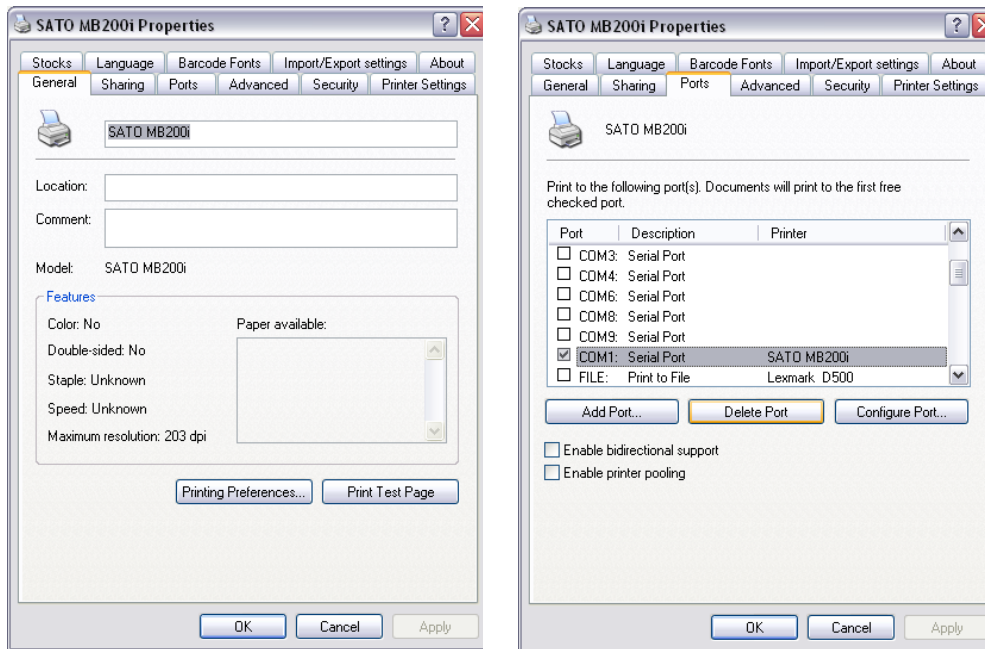

Figure 3-3a/b, SATO MB200i Properties
6. Procede to the SATO MB200i Properties screen (Figure 3-3a/b), then select the Ports tab.